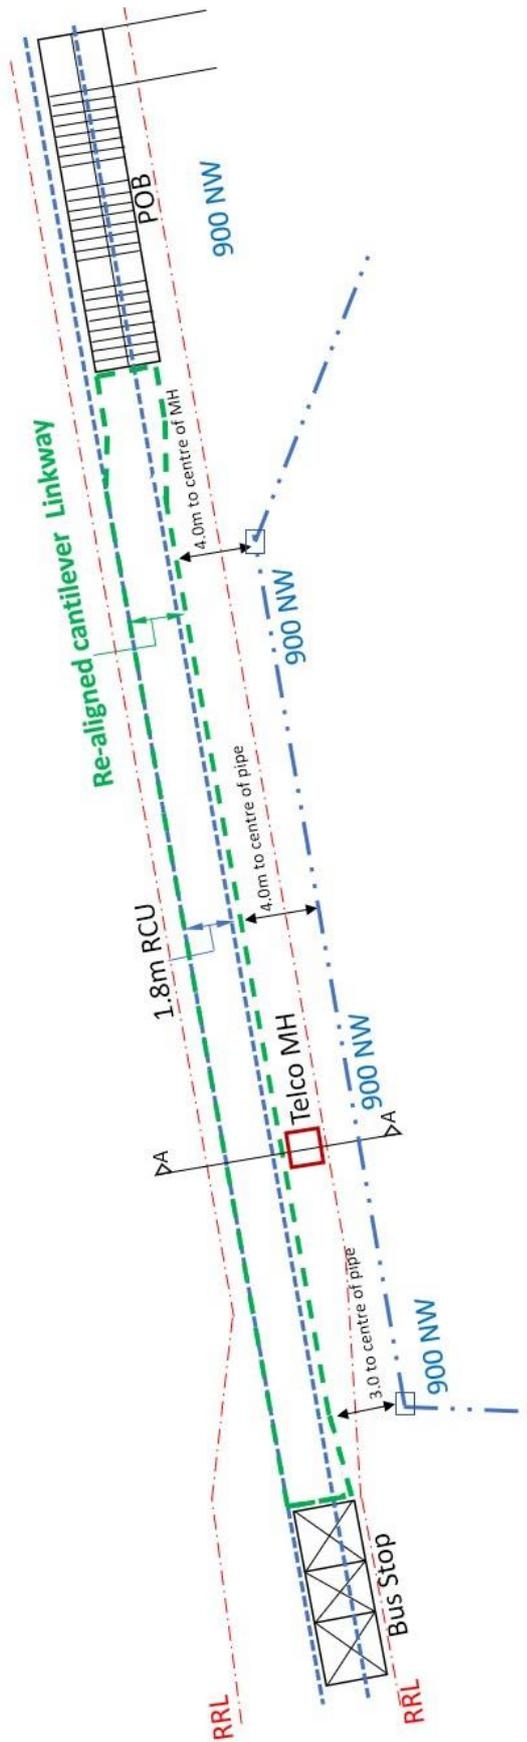

Figure Q7-2
- (b) Assuming the final accepted alignment by all agencies has been refined and as shown in Figure Q7-2.